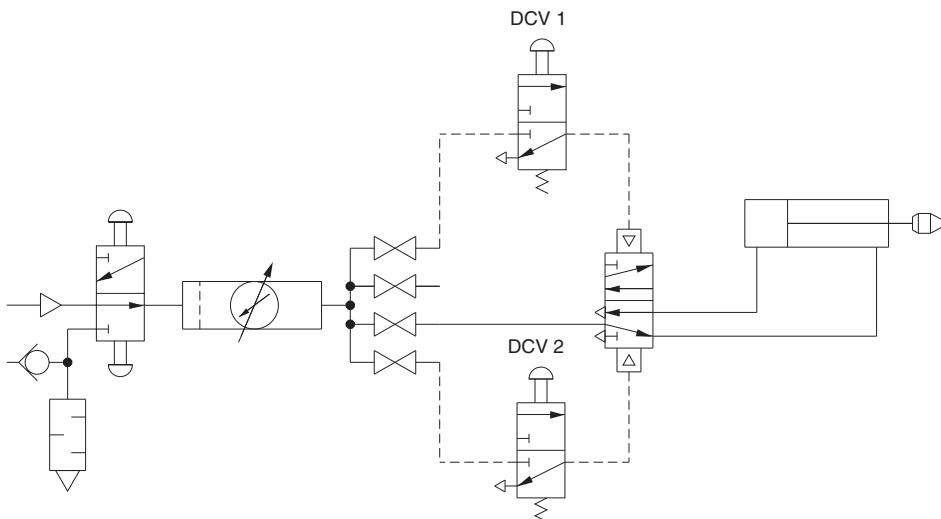

Figure 4-4. Schematic Diagram of a Pilot-Operated Circuit.
- 2. Retract the piston rod of the Double-Acting Cylinder and connect the circuit shown in Figure 4-4.
- 3. From the schematic diagram shown in Figure 4-4, predict which of the valves DCV1 or DCV2 controls the extension and/or the retraction of the piston rod?
- 5. Push down the button on the directional control valve DCV2 to set the spool in the pilot-operated valve as illustrated in Figure 4-4. The piston rod should be retracted.